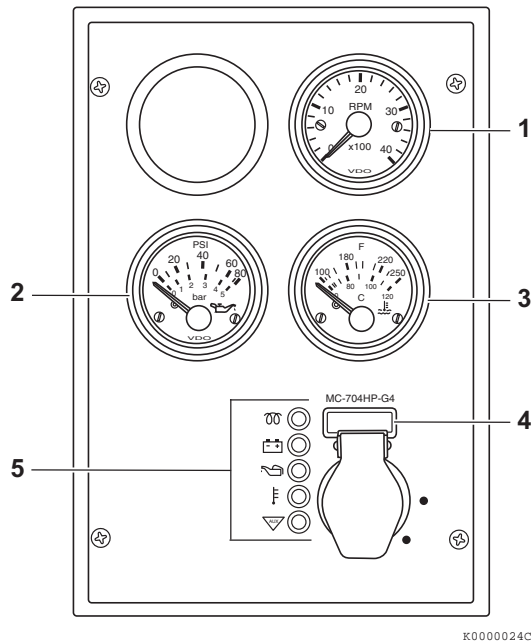
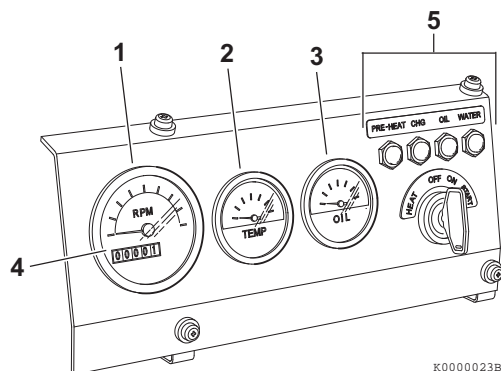

Figure 5
Figure 6
1. While the engine is running, check the gauges for normal indications. The gauges shown in **Figure 6** and **Figure 5** are provided for illustrative purposes only.
- **Tachometer**(1, **Figure 5**) or (1, **Figure 6**) - Make sure the engine speed is within normal limits.
- **Engine oil pressure** (2, **Figure 5**) or (3, **Figure 6**) - Make sure the engine oil pressure is within normal limits. See *Principal Engine Specifications* on page 119.
- **Engine coolant temperature** (3, **Figure 5**) or (2, **Figure 6**) - Make sure the engine coolant temperature is within normal limits.
- **Hour meter** - The hour meter display (4, **Figure 5**) or (4, **Figure 6**) shows the total number of hours the engine has run. This is useful for planning periodic maintenance operations. See *Periodic Maintenance Schedule* on page 78.
2. After the engine has reached operating temperature, all of the indicators (5, **Figure 5**) or (5, **Figure 6**) should be off. If any of the indicators are on, shut down the engine and have the necessary repairs performed.